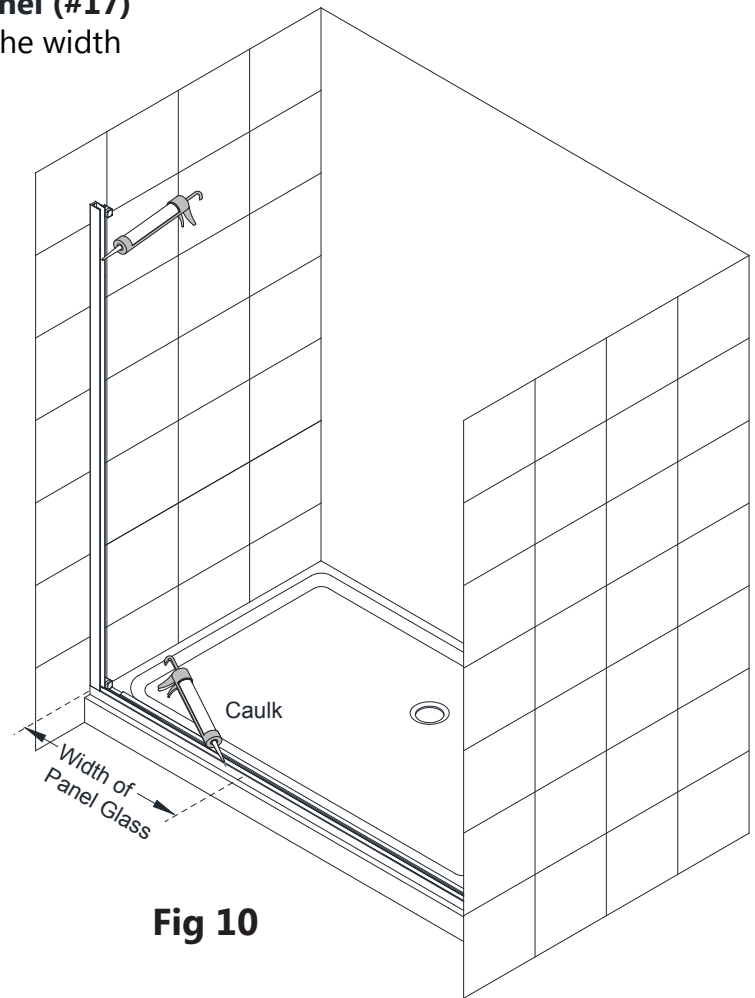

Fig 10
10. Apply silicone into the **Wall Profile/U-Channel (#17)** and into the **Bottom Guide Rail (#03)** equal to the width of the panel glass. **(Fig 10)**